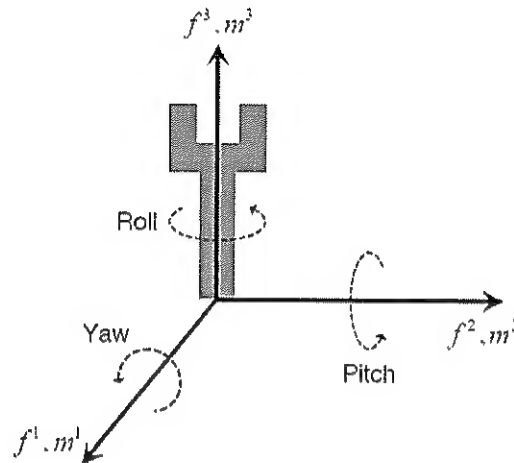

Fig. Q2
- a) Consider the robotic tool shown in Fig. Q2. Suppose we yaw the tool by $\pi/2$ about f^1 , then pitch the tool by $-\pi/2$ about f^2 , and finally roll the tool by π about f^3 .